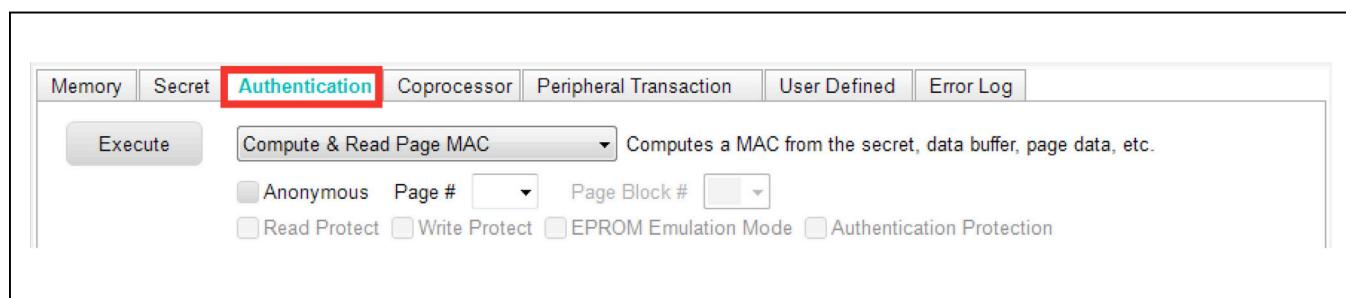

Figure 31. Authentication Tab
- 1) Click the **Authentication** tab (Figure 31).